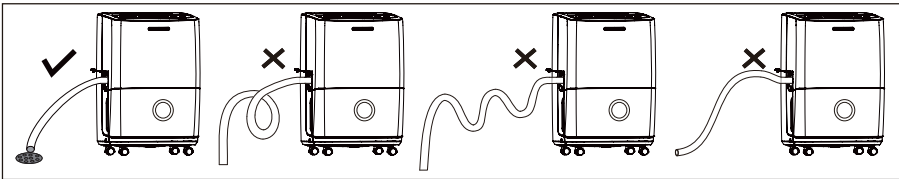

fig. 10
4. When applying continuous drainage option, place dehumidifier on a horizontal surface and make sure garden hose is clear of any obstructions and directed downward. Improper installation or use of hose may result in water filling up the bucket and causing the unit to shut off. Empty water bucket if shut-off occurs, then check dehumidifier location and hose for proper installation.(fig.10)